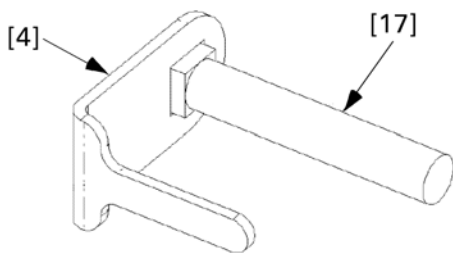
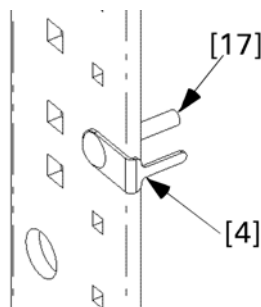

Figure 3. Assembling an antiturn clip [4] with a carriage bolt [17].
Figure 4. Installing a carriage bolt [17] and antiturn clip [4] into the interior.
3. **Assemble antiturn clips onto carriage bolts.** Slide an antiturn clip [4] over the square shank of each carriage bolt [17], as shown in Figure 3. Figure 4 illustrates the installation of a bolt and antiturn clip onto the interior, as called for in the remaining steps.